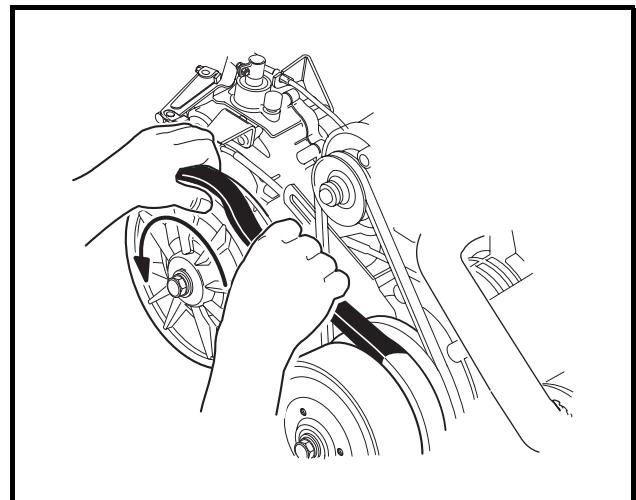

Figure 19-29 Remove Drive Belt
- 16.1. Grasp belt midway between drive and driven clutch and pull up on belt to force the driven clutch sheaves apart. Roll the belt counterclockwise while pulling it off driven clutch (**Figure 19-29, Page 19-12**).